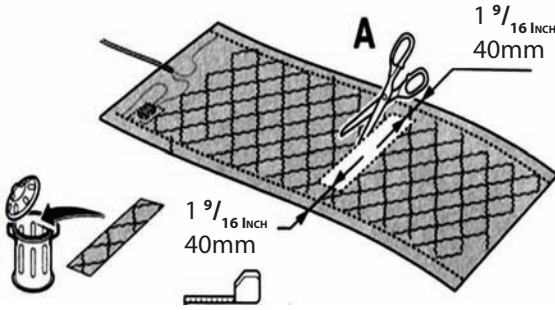

Figure 5
9. Once the area that needs to be cut out is marked, remove the heating pad from the cushion. Measure in (towards Center of pad) on each side  $1\frac{9}{16}$  inch (40mm) and mark. This is necessary to ensure that the main power supply for the heating pad does not get damaged or cut. Refer to Figure 5.